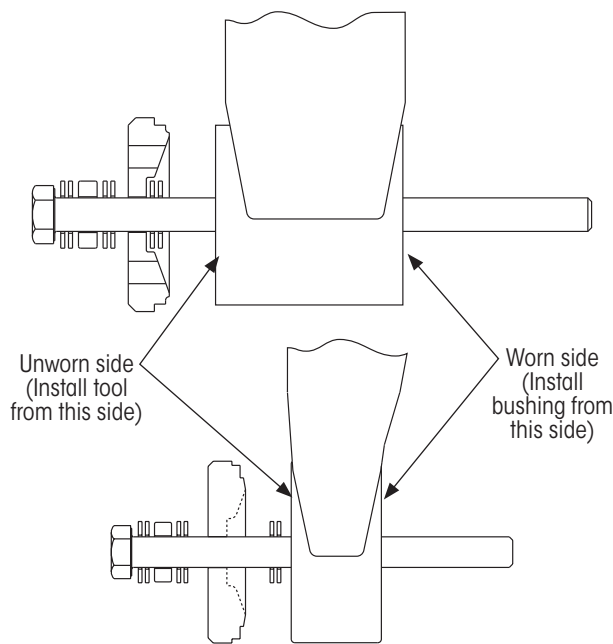

Figure 34: Install bushing from worn (but dressed) side
- B. If **bushing tube wear** was detected in step 2 on page 14, the assembled tool must be inserted into the unworn side of the bushing tube (Figure 34) so the replacement bushing can be installed from the worn (but dressed) side of the bushing tube.